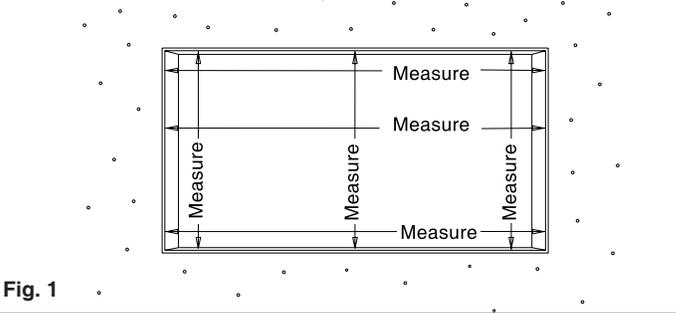
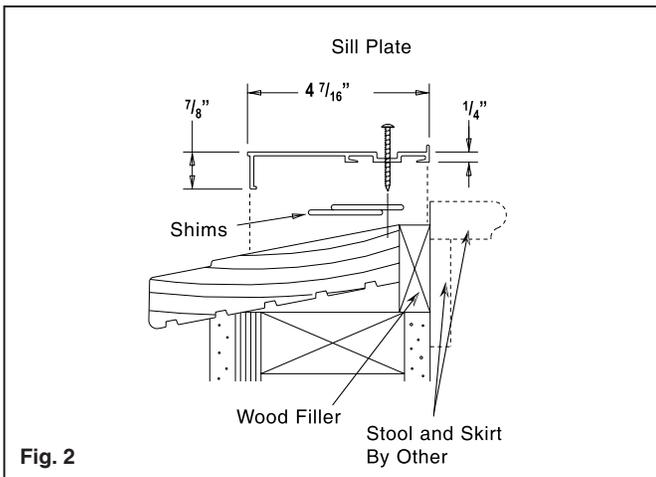
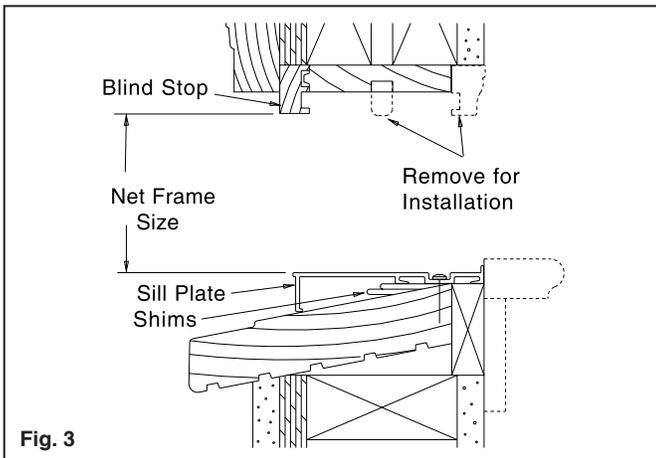

Fig. 1
Fig. 2
Fig. 3
A. Measure the opening in your existing window. The narrowest measurements in your window opening, excluding the fixed and rolling panels, will be the daylight opening. Measure daylight opening at the ends and the center. See **Fig. 1**. Deduct 1/2" from the height of the daylight opening dimension. A 1/4" of this deduction is considered for the interior leg of the Sill Plate. See **Fig. 2**. Deduct 1/4" from the width dimension, this will determine the "net frame size". See **Fig. 3**.
A. The existing wood frame may need to be modified to accommodate the new frame. Removal of certain parts of the frame will be needed. See **Fig. 1**. An additional frame block may be needed to support the Sill Plate towards the interior. See **Fig. 3**. Sill Plate should be cut to fit over existing sill and touch both existing jambs.